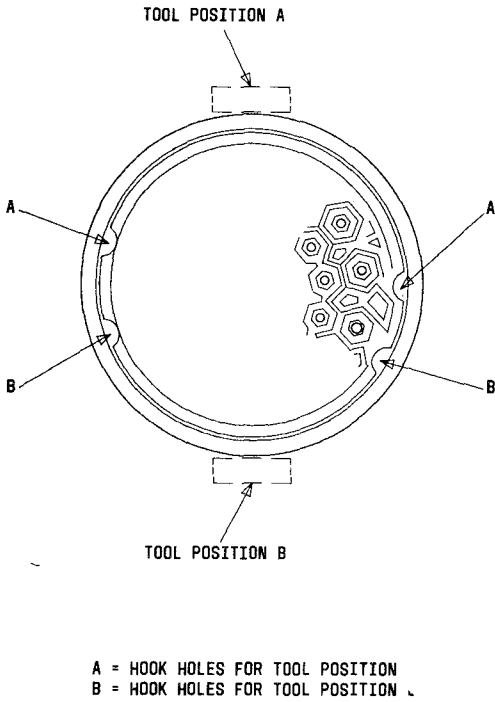

Fig. 21—Selection of Tool Position and Appropriate Hook Holes
(2) Select one of the two tool positions in Fig. 21 and insert sling hooks into hook holes indicated. Place the tool fulcrum on the frame and center between the two hook holes (Fig. 21).